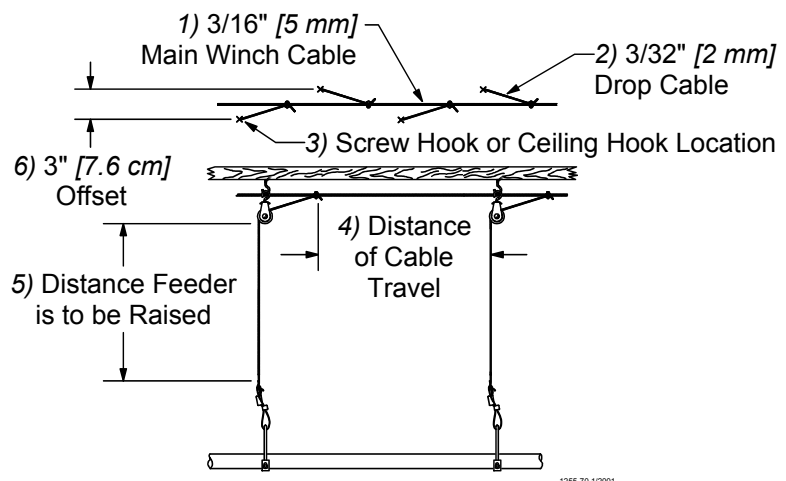
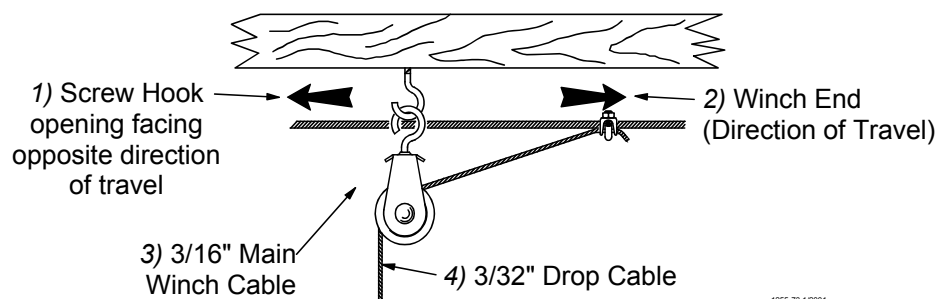

Figure 12. Drop Line Off Set Detail
Figure 13. Screw Hook Installation
If the distance raised is greater than the distance between the drop spacings, offset the hooks 3" [7.6 cm] to each side of the line to prevent the cable clamps from catching the pulleys. See Figure 12. **“Figure 12. Drop Line Off Set Detail” on page 12**
The openings of the screw hooks must be pointed away from the direction of travel when the Power Winch raises the feeder line. See Figure 13. **“Figure 13. Screw Hook Installation” on page 12**
Refer to **Figure 12. Drop Line Off Set Detail** on page 12 **Figure 13** on page 10.
2. Thread the end of the 3/32" or 1/8" cable through the pulley toward the winch. Clamp this end to the 3/16" winch cable about 6" [150 mm] from the last pulley, using a 3/16" cable clamp. See applicable figure; **Figure 13** or **17**.